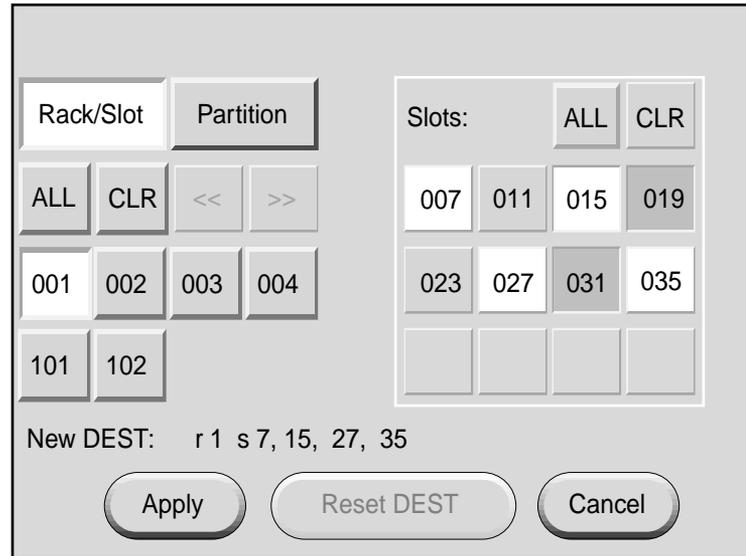

Figure 1-18 Slots Section
If you want to power off individual bricks, select the rack that contains the bricks that you want to power off from the **Rack/Slot** segment of the display. A box appears that lists the slot numbers for all of the bricks in the selected rack (see Figure 1-18).
3. Select the slot number of each brick that you want to power off. (Figure 1-18 shows slots 007, 015, 027, and 035 selected). The **New DEST:** field lists your selections. After you complete your selections, select **Apply**.